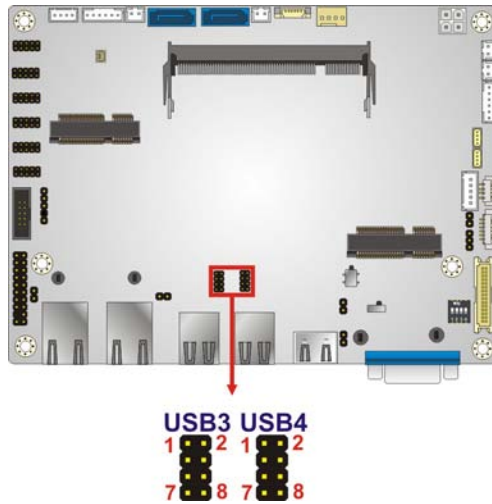

Figure 3-30: USB Connector Locations
- CN Location: See **Figure 3-30**